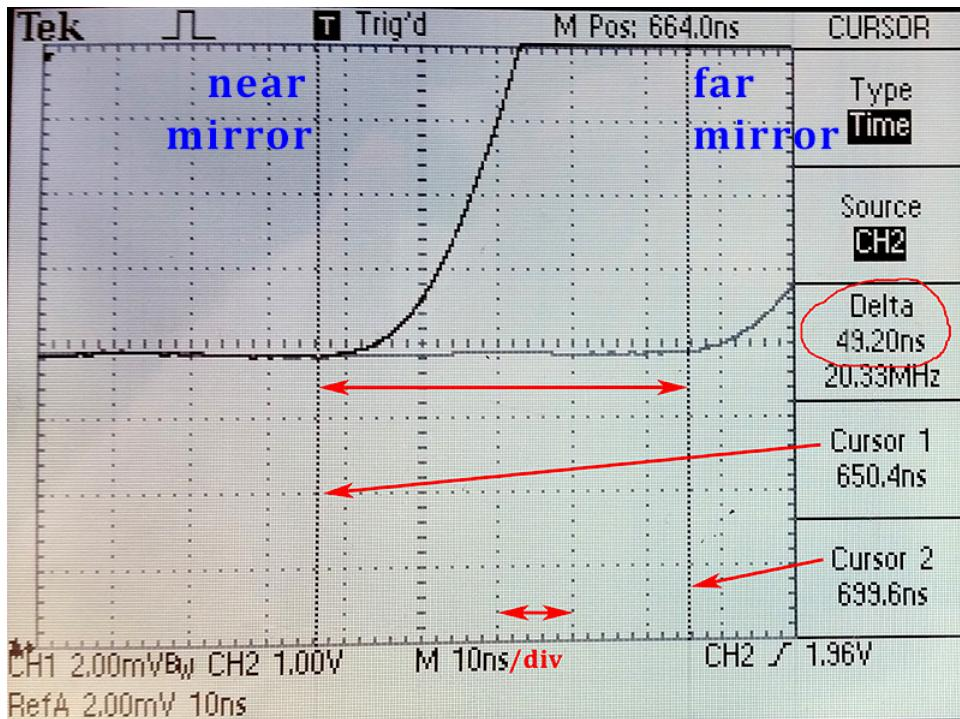

Figure 31: Typical Oscilloscope data
- The scope has the ability to save a trace and then display it. Average the far mirror trace, save it and then display it on the screen. Switch to the near mirror, average and make a measurement of Δt with the cursors. A typical display is shown in figure 31.